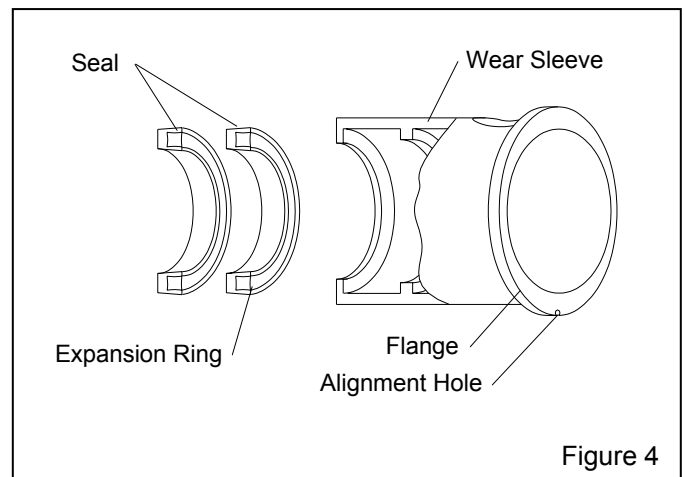

Figure 4
4.4.6 Put new seals in the wear sleeve as shown in Figure 4. The seal closest to the flange goes in first, with the seal expansion ring facing the flange. The second seal is placed next to the first with the ring also facing the flange.